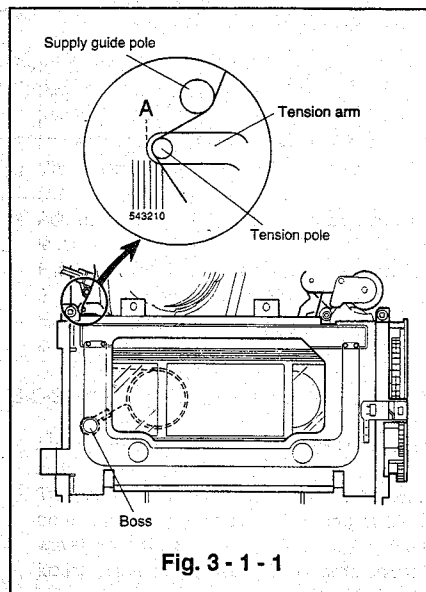
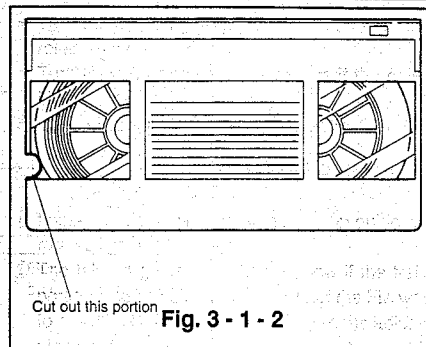
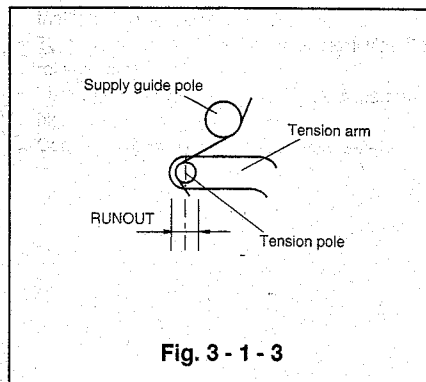

Fig. 3-1-1
Fig. 3-1-2
Fig. 3-1-3
- ① Cut out the alignment tape [PM6KH3 : 859C339O30] as shown in Fig. 3-1-2. This allows the tape to be adjusted while playing the tape by inserting hexagon wrench through the round hole in the cassette housing shown in Fig. 3-1-1. (Take care not to allow fragments of the cassette case inside the cassette tape.)
- ② Playback an alignment tape which has a cut out.
- ③ Make sure that the tip section A of the tension arm is between the divisions "2" and "2.5" on the main plate. (Fig. 3-1-1) (The divisions are numbered from the right to left.)
- ④ If tip section A of the tension arm is to the right of "2", turn the boss clockwise. If A is to the left of "2.5", turn it counter-clockwise.
- ⑤ Insert a back tension measuring jig (Part No. 859C346060) and set the VCR to the playback mode.
- ⑥ When tape travel becomes steady, make sure that the reading of the Back Tension Measuring Jig is $50 \pm 6g\text{-cm}$.
- ⑦ If the reading is high, replace the tension spring.
- ⑧ When tape travel is steady, check visually to make sure that the runout of the tension pole is 1mm or less. (Fig. 3-1-3)
- ⑨ If the runout is not within the specified value, replace the reel disk.